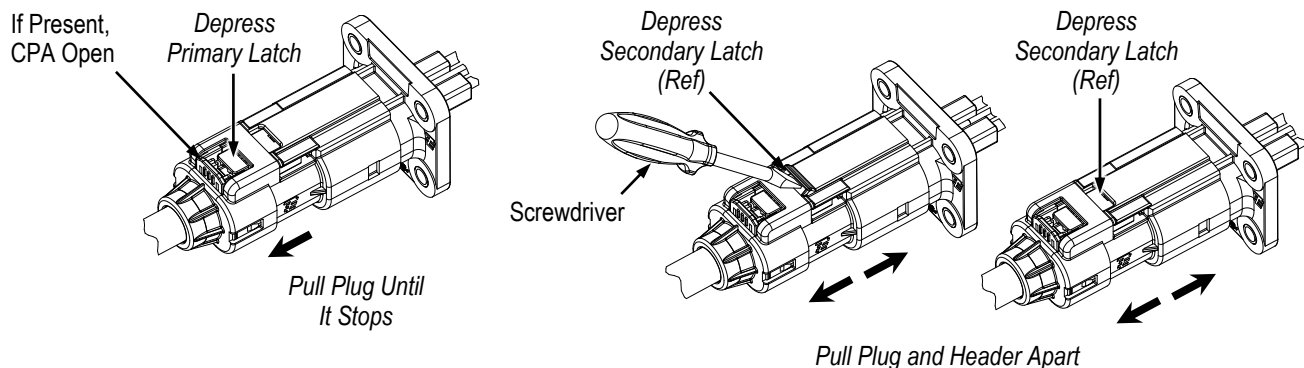

Figure 5
2. If present, open the CPA of the plug by sliding it away from the header. Refer to Figure 5.
3. Depress the primary latch of the plug, and simultaneously pull the plug until it stops. At this point, the connectors are not fully unmated; therefore, do not force the connectors apart. See Figure 5.
4. Using a small screwdriver or fingertip (depending on style of header), depress the secondary latch located in the window just in front of the primary latch, and simultaneously pull the plug and header apart. Do not pull on the cable or cable seal retainer. Refer to Figure 5.